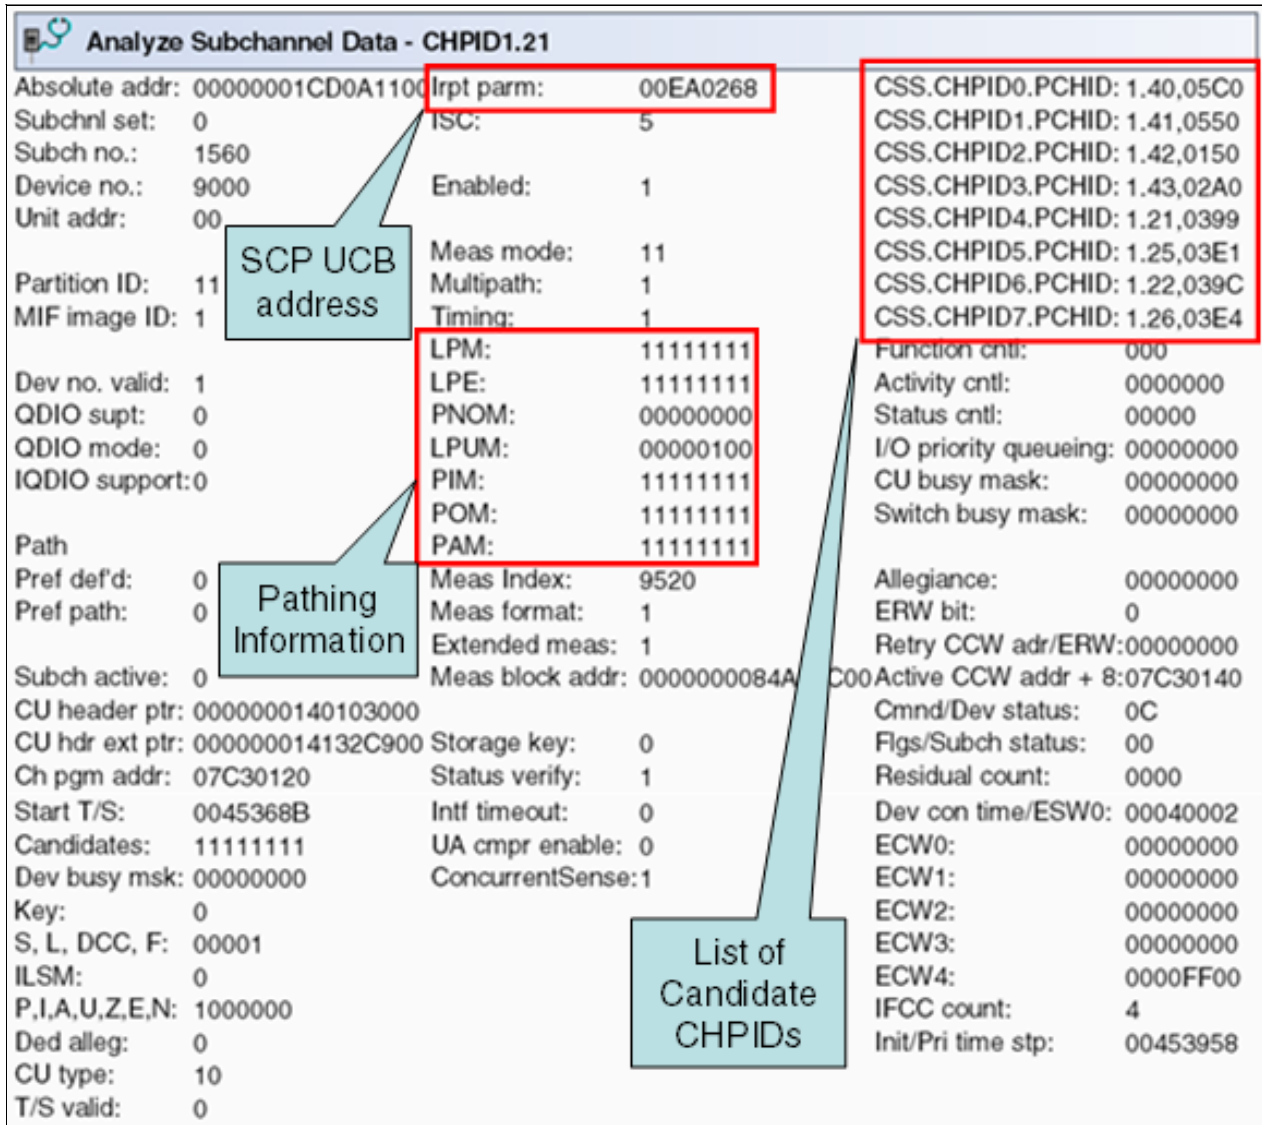

Figure E-11 Analyze Subchannel Information PD panel
5. Enter the device number (or unit address or subchannel number, depending on what you selected in the previous step), and select **OK**. In our example, we used device number 9000 (see Figure E-11 on page 443).